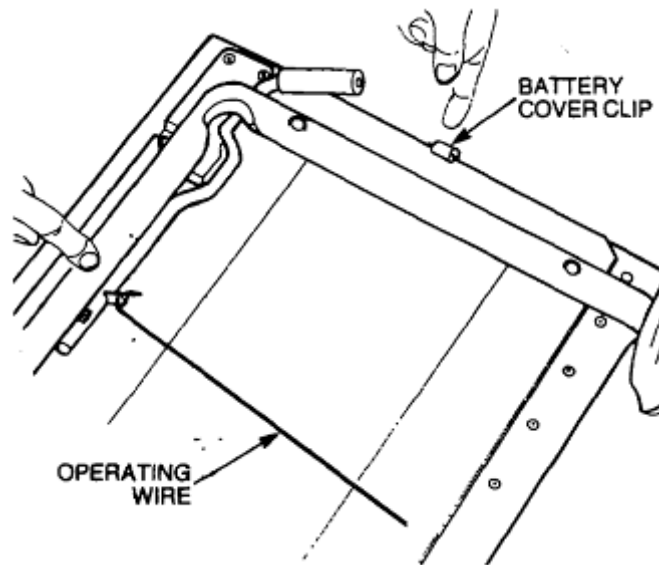

Figure 144 Battery Cover Removal
- b. Disconnect one end of the operating wire (Figure 144) which is connected between the seat lateral and the locking mechanism.
- l. Connect the operating wire between the seat lateral and locking mechanism (Figure 144).